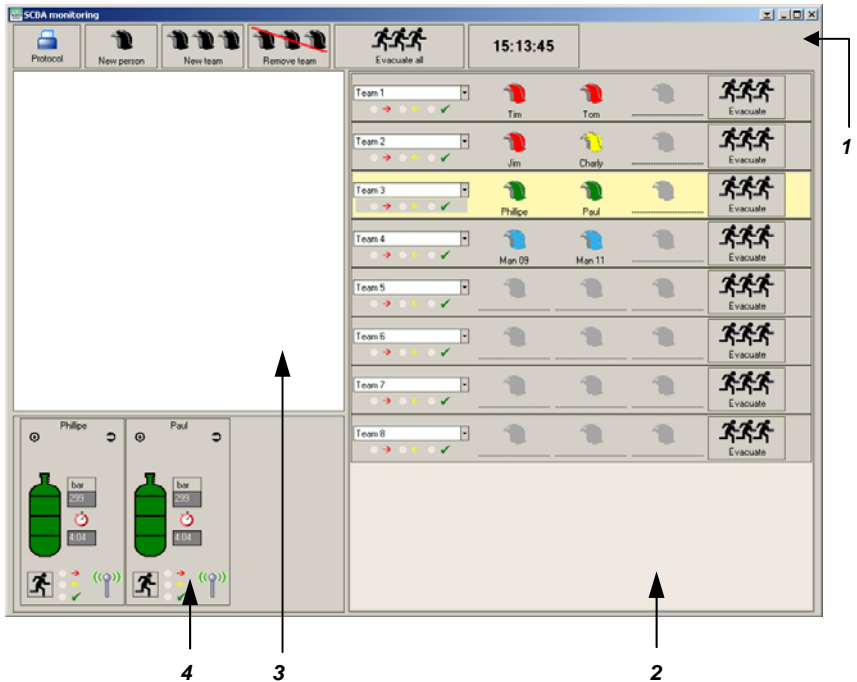

Fig. 14 User interface telemetry monitoring software
- Detailed display of pressure, remaining service time and alarm, and the menu bar (→ Fig. 14).